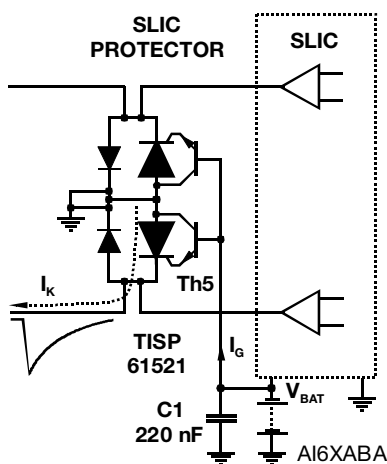
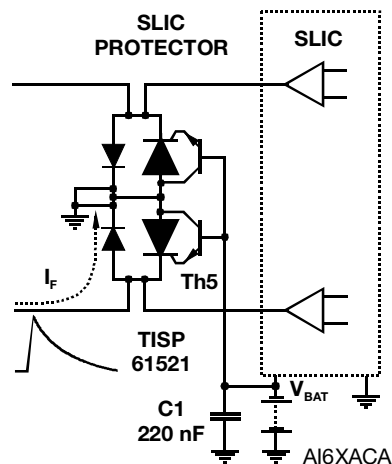
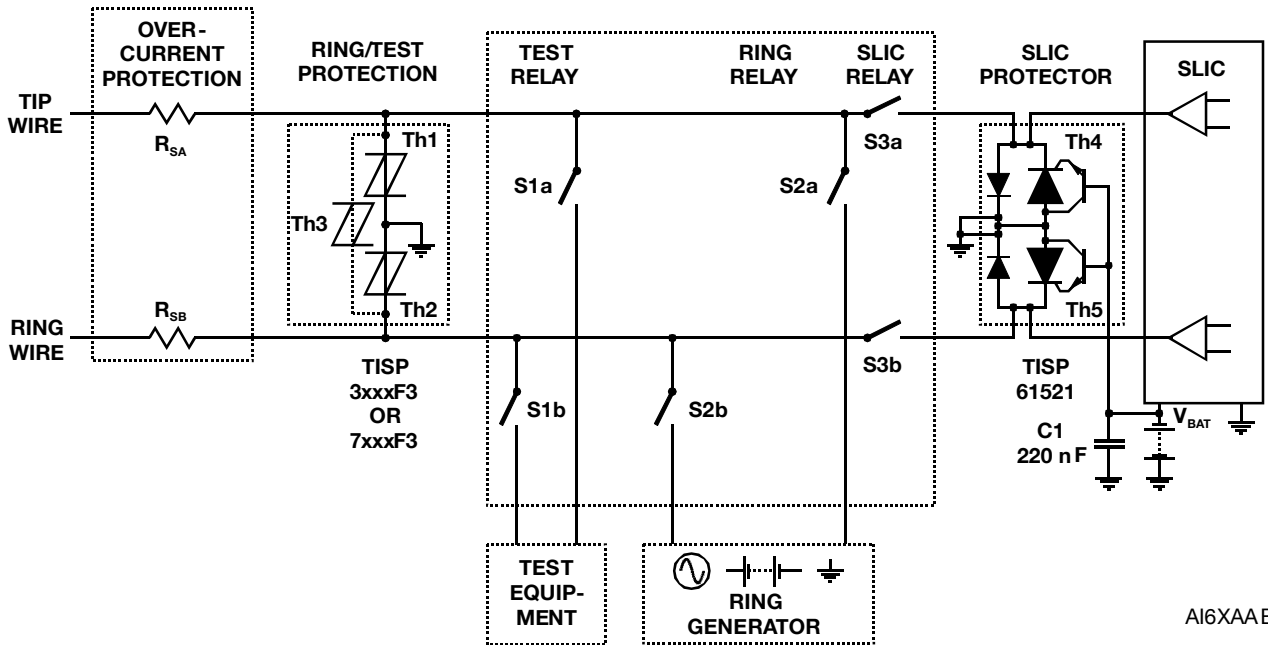

Figure 3. Negative Overvoltage Condition
Figure 4. Positive Overvoltage Condition
Figure 6. Typical Application Circuit
SLICs have become more sophisticated. To minimize power consumption, some designs automatically adjust the driver supply voltage to a value that is just sufficient to drive the required line current. For short lines, the supply voltage would be set low, but for long lines, a higher supply voltage would be generated to drive sufficient line current. The optimum protection for this type of SLIC would be given by a protection voltage which tracks the SLIC supply voltage. This can be achieved by connecting the protection thyristor gate to the SLIC V_{BATH} supply, Figure 3. This gated (programmable) protection arrangement minimizes the voltage stress on the SLIC, no matter what value of supply voltage.
Figure 3 and Figure 4 show how the TISP61521 limits negative and positive overvoltages. Positive overvoltages (Figure 4) are clipped by the antiparallel diode of Th5 and the resulting current is diverted to ground. Negative overvoltages (Figure 3) are initially clipped close to the SLIC negative supply rail value (V_{BATH}). If sufficient current is available from the overvoltage, then Th5 will switch into a low voltage on-state condition. As the overvoltage subsides, the high holding current of Th5 prevents d.c. latching. The protection voltage will be the sum of the gate supply (V_{BATH}) and the peak gate-cathode voltage ($V_{GK(BO)}$). The protection voltage will be increased if there is a long connection between the gate decoupling capacitor, C1, and the gate terminal. During the initial rise of a fast impulse, the gate current (I_G) is the same as the cathode current (I_K). Rates of $70 \text{ A}/\mu\text{s}$ can cause inductive voltages of 0.7 V in 2.5 cm of printed wiring track. To minimize this inductive voltage increase of protection voltage, the length of the capacitor to gate terminal tracking should be minimized. Inductive voltages in the protector cathode wiring will also increase the protection voltage. These voltages can be minimized by routing the SLIC connection through the protector as shown in Figure 6.
Figure 6 shows a typical TISP61521 SLIC card protection circuit. The incoming line conductors, Ring (R) and Tip (T), connect to the relay matrix via the series overcurrent protection. Fusible resistors, fuses and positive temperature coefficient (PTC) resistors can be used for overcurrent protection. Resistors will reduce the prospective current from the surge generator for both the TISP61521 and the ring/test protector. The TISP7xxxF3 protector has the same protection voltage for any terminal pair. This protector is used when the ring generator configuration may be ground or battery-backed. For dedicated ground-backed ringing generators, the TISP3xxxF3 gives better protection as its inter-conductor protection voltage is twice the conductor to ground value.